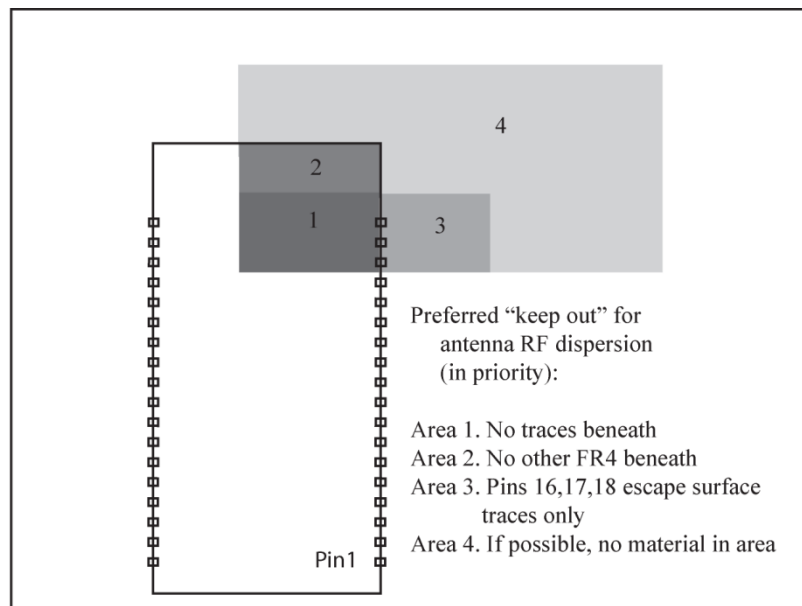

Figure 10. Module "Keep Out" Areas
In addition to the guidelines in Figure 10, note the following suggestions:
- Routing under the module except for limits shown in Figure 10 is acceptable if they are solder masked.